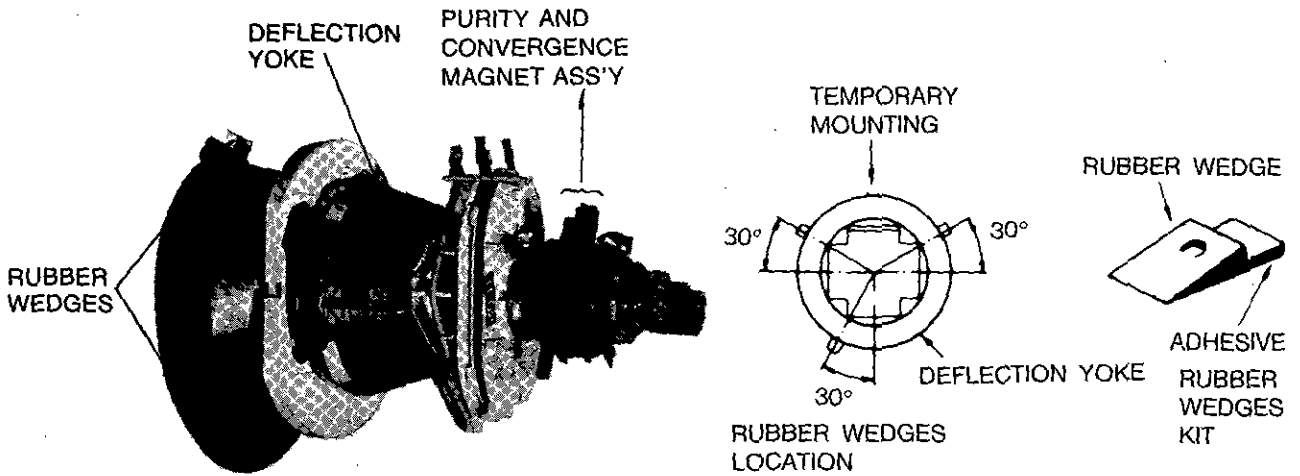

Figure 14
CAUTION : Convergence and Purity have been factory aligned. Do not attempt to tamper with these alignments. However, the effects of adjacent receiver components, or replacement of picture tube or deflection yoke may require the need to readjust purity and coverage. Convergence magnet assembly and rubber wedges need mechanical positioning following the figure 14. Before attempting any convergence adjustments this receiver should be operated for at least fifteen minutes. IF adjustment is required, the adjustments should be made in the following sequence.
2. Adjust DY to obtain a better convergence in the circumference by orbital movement of the front of the yoke, then secure the DY in appropriate position by placing the wedges as illustrates in figure 14 Tighten screw holding the DY. Stick 3 adhesive tapes on wedges as shown in figure 14.